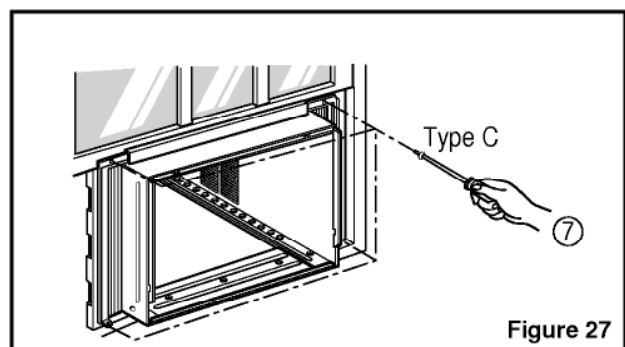

Figure 27
9. Attach each Frame curtain to the window sash by using screws ✕ (Type C). (See Figure 27)